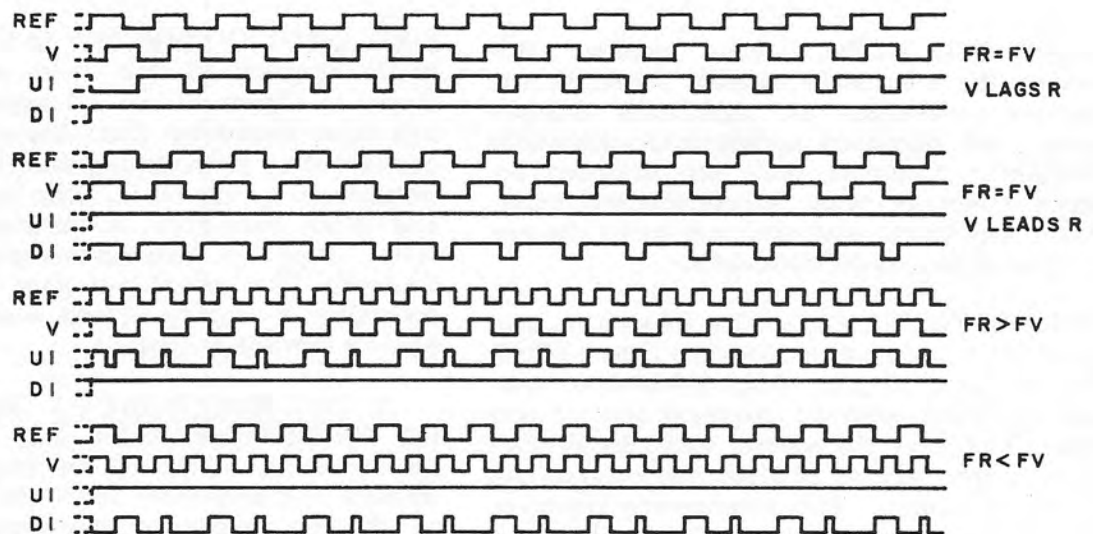

Figure 3-12. Phase Detector Timing Diagram
j. Reference Frequency. The phase detector normally receives a fixed reference frequency at one input (R) and a variable frequency at the input (V) from the divider section. The output responds only to transitions from the two inputs and has four output states as shown in figure 3-12. If the frequency and phase match exactly, outputs U and D remain high. If the variable input leads in phase with respect to the reference input, U remains high and D goes low. If the variable input lags in phase with respect to the reference input, D remains high and U goes low. When inputs V and R are separated by a frequency difference, the output at pins U or D varies high and low at a rate proportional to the difference frequency of the two inputs.